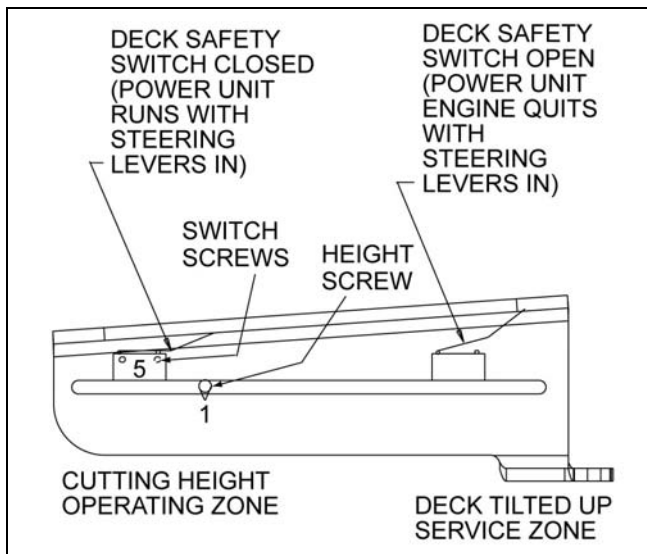

Figure 12. Power Tilt Deck Safety Switch Layout
- If using the power tilt option and you need to check the deck safety switch refer to Figure 12 and troubleshooting deck safety switch. If the deck switch is open the engine will kill when pulling handles in.